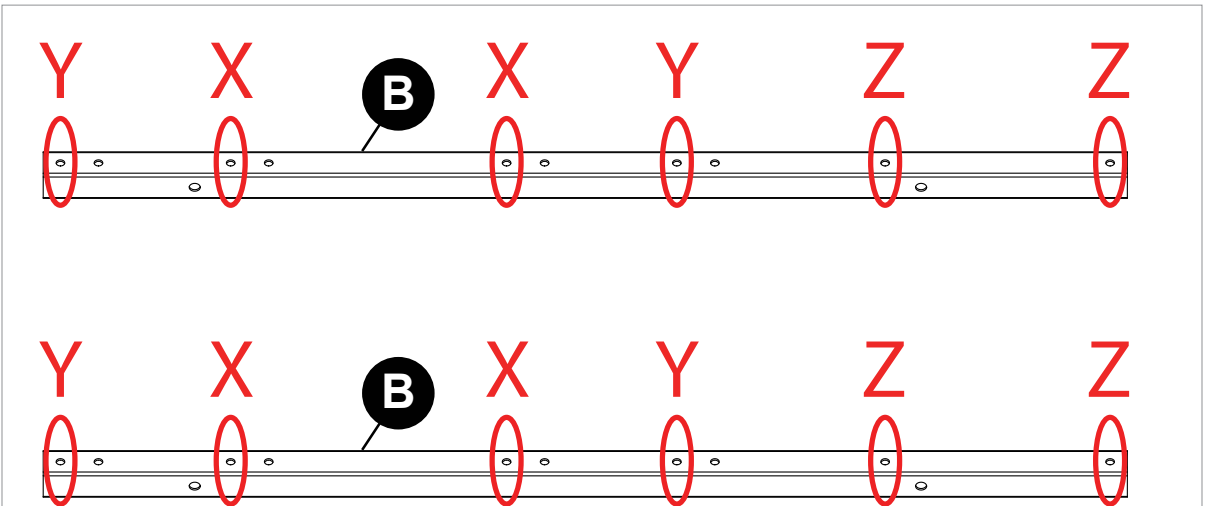
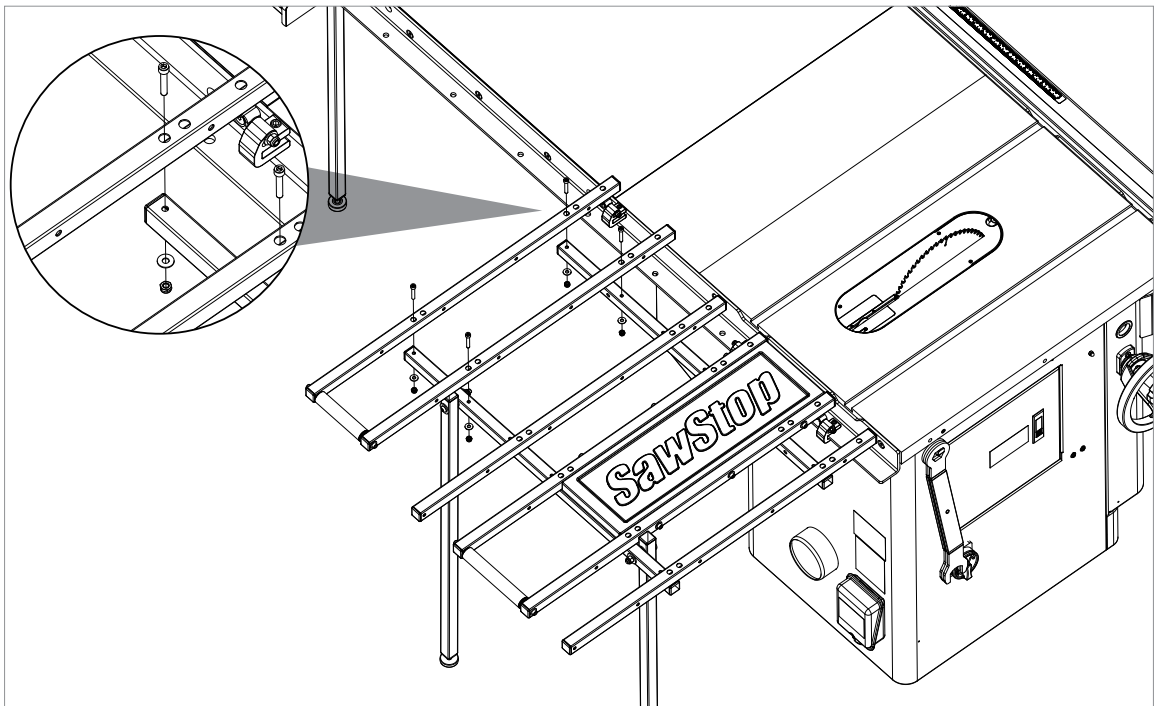

Fig. 48
Fig. 53
Align the mounting holes in the table tubes with the holes marked as “X” in Fig. 48. Insert an M6 x 35 socket head cap screw through one of the exposed mounting holes in one of the table tubes and table support tubes. Secure the socket head cap screw with an M6 x 16 washer and an M6 lock nut. Do not tighten the lock nut at this time.
Position a solitary table tube (A) (not attached to a table roller) across the two table support tubes (B), with the clamp mounting holes on the end closest to the table saw. Align the mounting holes in the table tube with holes labeled as “Y” in Fig. 48 on page 46.
Position the other solitary table tube (A) on the other side of the insert table (D), and align the mounting holes in the table tube with the holes marked as holes “Y” in Fig. 48 on page 46.
Slide the rear rail clamp onto the rear rail of your table saw, but do not tighten the set screw. Align the mounting holes in the table tubes with the mounting holes at the left end of the table support tubes (marked as holes “Z” in Fig. 48 on page 46), making sure that tube end caps are almost flush with the rear rail. There are two sets of two holes paired together in the top and bottom of each table tube; you will use the hole in each pair that is further from the table saw (see Fig. 53).